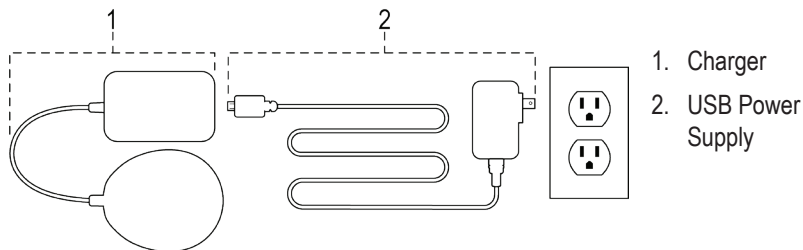

Figure 4 Charger plugged into the USB Power Supply
3. Plug the other end of the USB Power Supply into the Battery Pack end of the Charger, see Figure 4.